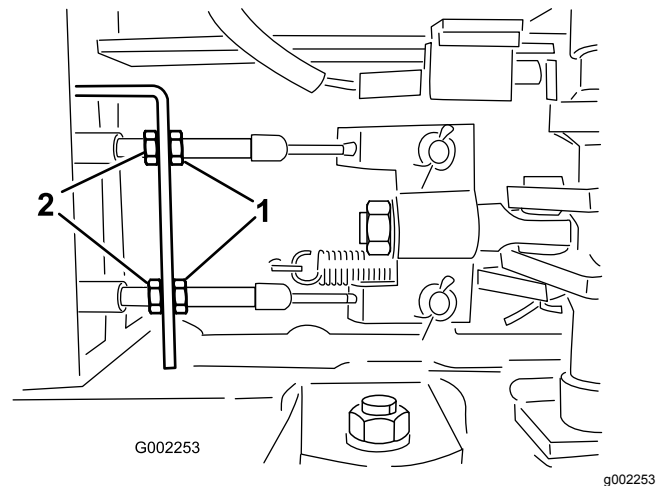

Figure 87
- Close the drain valve (Figure 87).
- Loosen the front nuts on the brake cables under the front end of the sprayer (Figure 87).
- Tighten the rear nuts equally until the brake pedal moves 1 to 2 cm (1/2 to 1 inch) before you feel resistance (Figure 87).